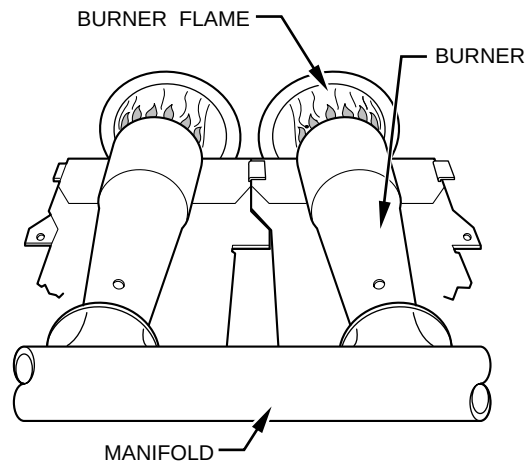

Fig. 13—Burner Flame
- j. Look through sight glass in burner enclosure and check burner flame. Burner flame should be clear blue, almost transparent. (See Fig. 13.)